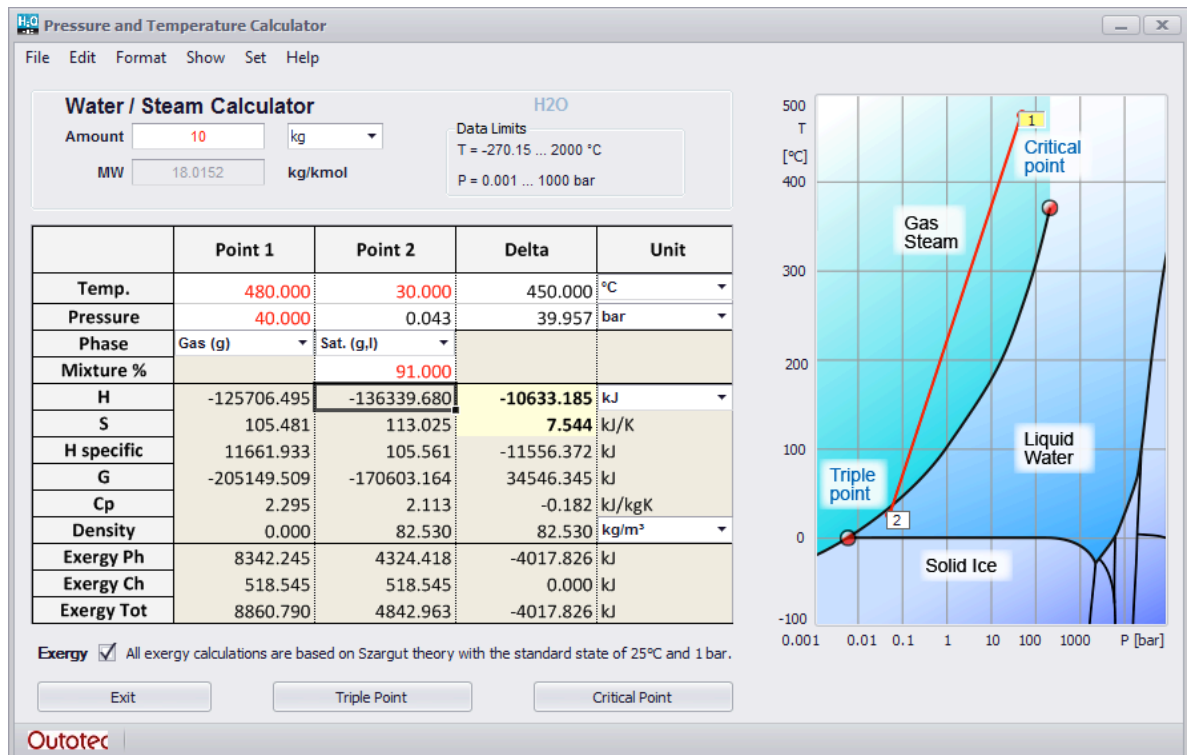

Fig. 4. Steam turbine process.
A simple steam turbine process is shown in Fig. 4. The calculation shows that the net enthalpy for a mass flow of 10 kg/s is  $-10633$  kW and thus exothermic, i.e. the enthalpy is released in the form of work on the shaft. The entropy generation is  $7.5$  kW/°C and the process is therefore not isentropic. By decreasing the Mixture % (in this case  $\sim 81.7$  %), the process may be compared with the ideal isentropic process for which there is no entropy generation. The enthalpy released in the isentropic process is  $-12903$  kW and the isentropic efficiency is therefore, according to Equation (2),  $\eta_{s,t} = -10633$  kW /  $-12903$  kW =  $0.82$ .